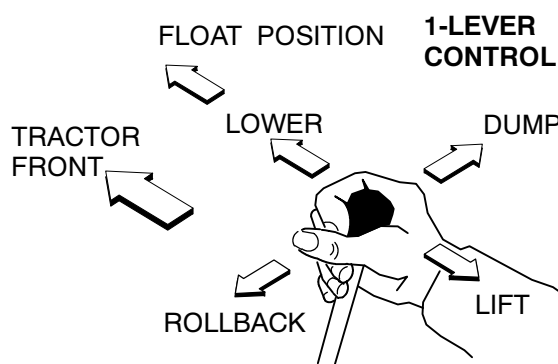

Figure 12 Single Lever Control Operation
4. Check that all hydraulic control lever positions operate the loader movements correctly as shown in Figure 12.